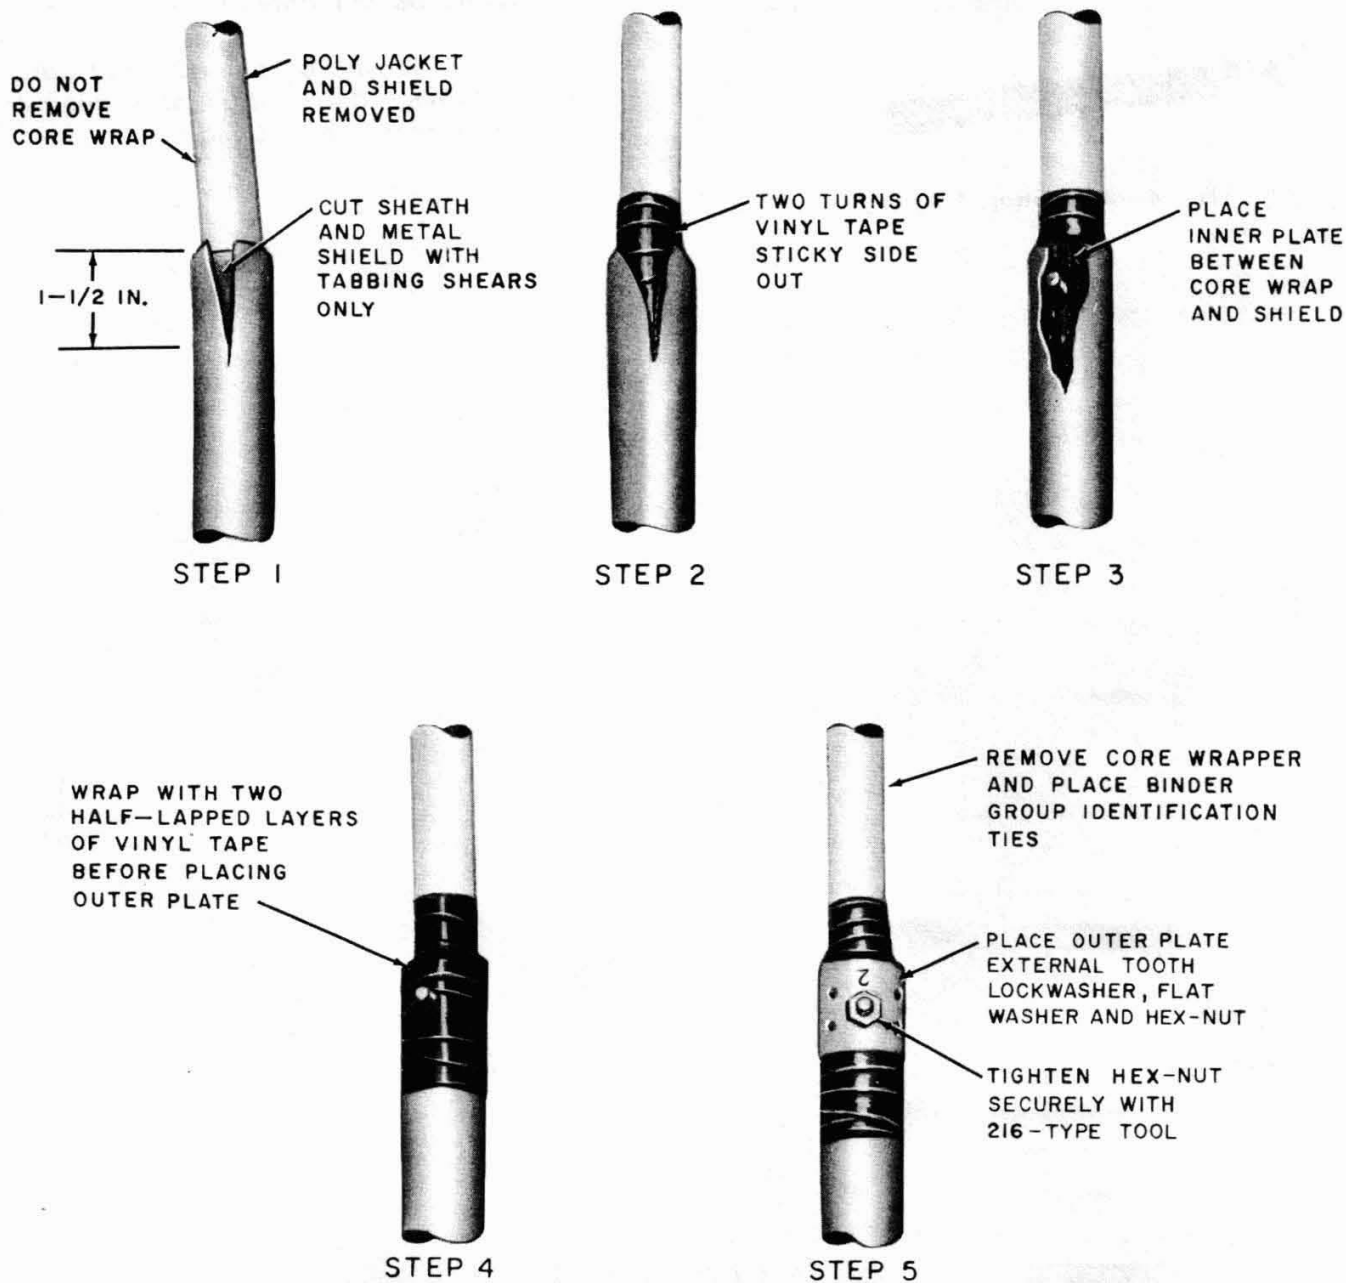

Fig. 5—Installing B Bond Clamp
3.01 Install the B bond clamp as illustrated in Fig. 5, 6, or 7.